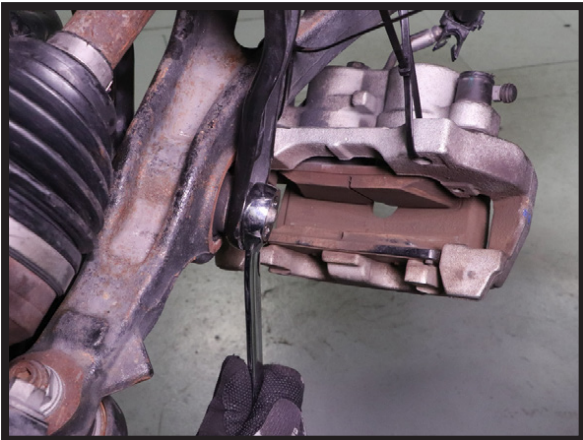

FIGURE 18
14. REMOVE BOTTOM STRUT MOUNTING NUT AND BOLT. (FIGURES 18, 19, 20, 21)